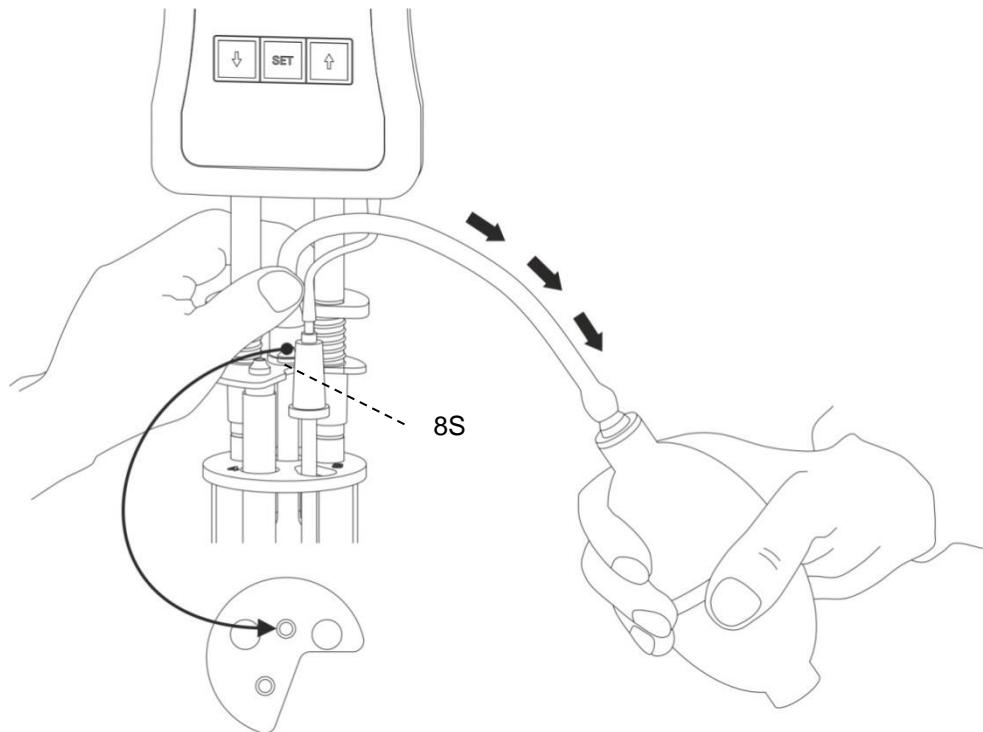

Fig. 9 Suction mode liquid handling with manual pump VZ 6554
(b) on silicone plug (8S) above the capillary tube (22) for suction operation (see Fig. 9)